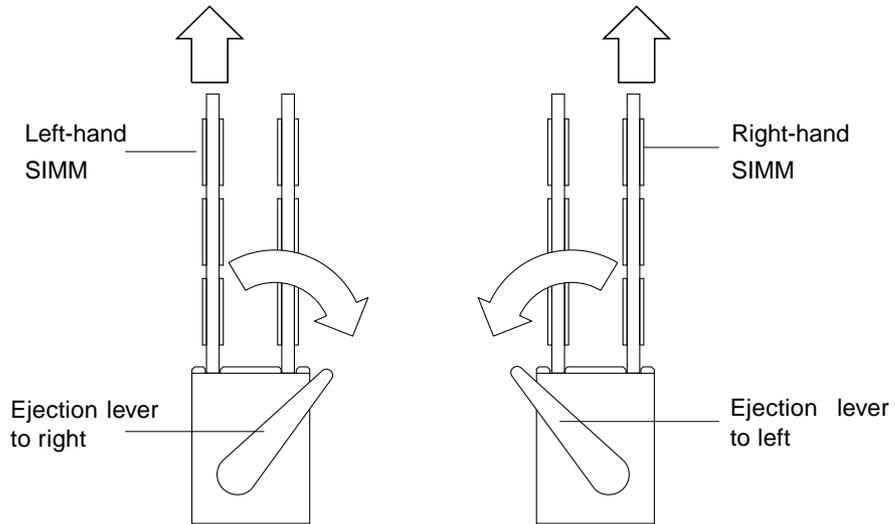

FIGURE 10-7 SIMM Ejection Lever
**7. Push the lever away from the SIMM (see FIGURE 10-7 on page 10-18) to be removed.**